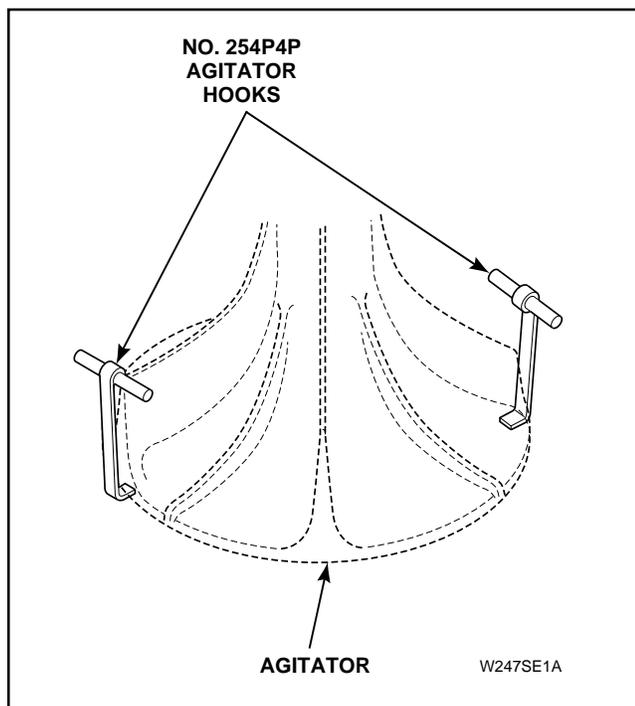

Figure 21
- Remove agitator by placing two agitator hooks, No. 254P4P, under bottom edge of agitator, *Figure 21*.